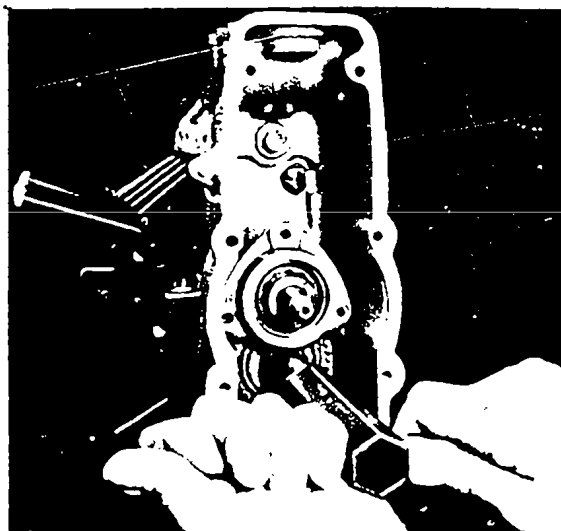

Fig. 24 Releasing the drive gear
2.3. 3. Screw extractor EF 8207 into position and release drive gear (161) from camshaft taper. (Fig. 24). The complete removal of the gear, at this stage is prevented by the governor shaft.